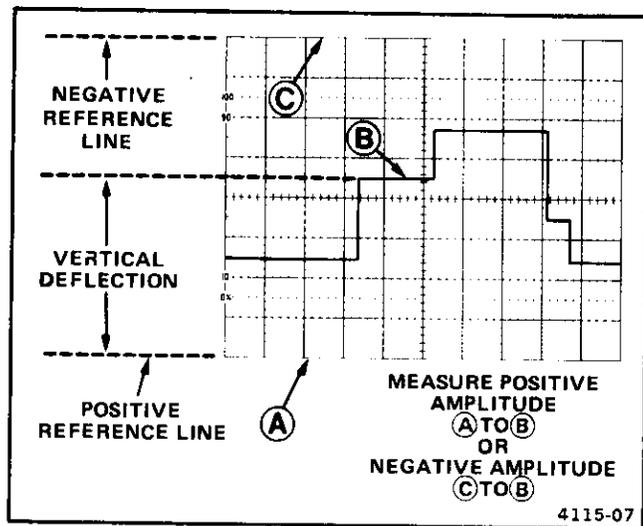

Figure 14. Instantaneous voltage measurement.
11. Measure the divisions of vertical deflection between the reference line and the desired point on the waveform at which the dc level is to be determined (see Figure 14).
EXAMPLE: The measured vertical deflection from the reference line is 4.6 divisions (see Figure 14), the waveform is above the reference line, the VOLTS/DIV switch is set to 2, and a 10X attenuator probe is being used.